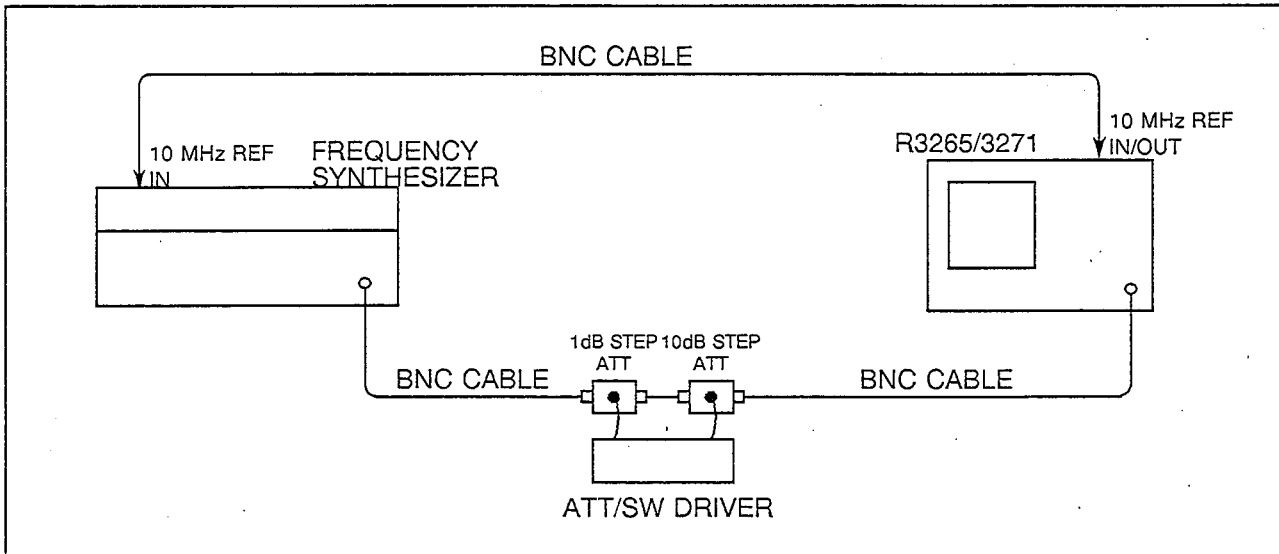

Figure 4-15 IF Gain Uncertainty Test Setup
- (1) Connect the equipment as shown in Figure 4-15.
- (2) Set the frequency synthesizer controls as follows: